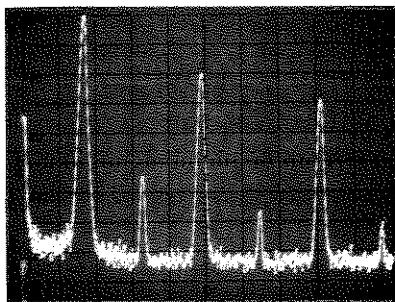

Figure 5-3. Triangle Adjustment: HF
6.3 Adjust A15R37 for minimum 2nd harmonic. (Figure 5-3). Verify level is 50 dB below fundamental or lower.